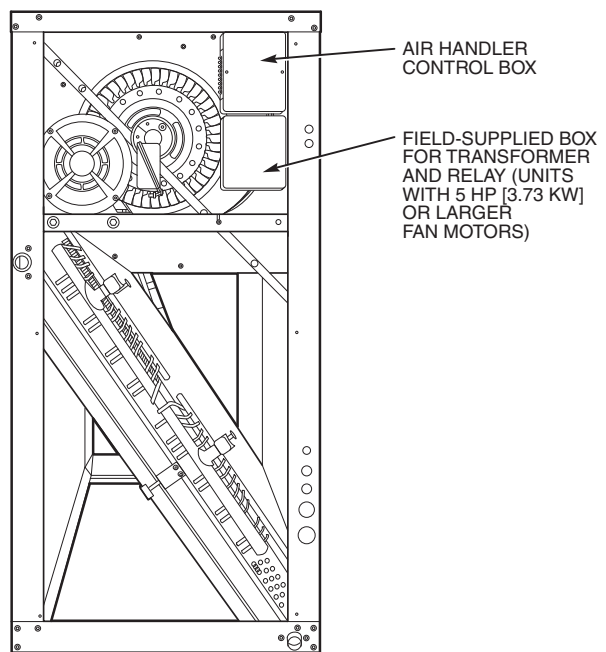

Fig. 6 — Installing Economizer Transformer and Relay
3. For air handlers without a circuit breaker in the control box (units with fan motor sizes less than 5 hp [3.73 kW]) mount the transformer and relay inside the control box. Use the holes in the transformer base and relay base as guides to drill holes into the box and fasten components in place with supplied no. 8 x $1/2$ in. sheet metal screws. See Fig. 6.
4. For air handlers with a circuit breaker in the control box (units with fan motor sizes of 5 hp [3.73 kW] or greater), mount the supplied transformer and relay in a field-supplied and installed electrical box as shown in Fig. 6. Use the holes in the transformer base and relay base as guides to drill holes into the box and fasten components in place with supplied no. 8 x $1/2$ in. sheet metal screws.